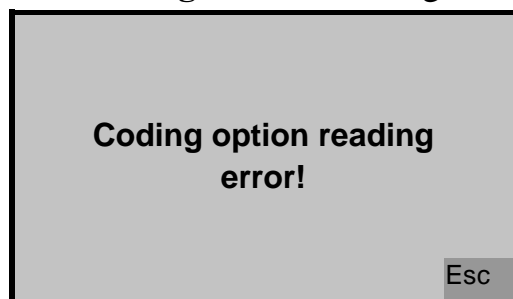

Fig. 7.61.
1.2. The “**Coding option**” item allows selecting the coding option. On vehicles, changing the coding option is not provided and is not available. The display will show the “**Coding option reading error!**” message, see Fig. 7.61.